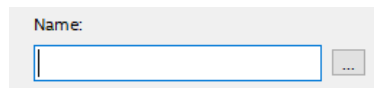

Figure 5.12: Browse button to locate new symbols
2. Click on the button with dots, located next to the text box under the title **Name:** to browse for new symbol files. See Figure 5.12.